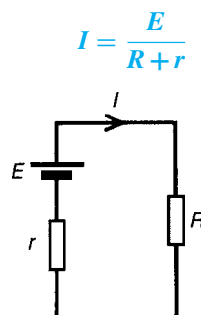

Figure 13.36
- (iv) determine the value of the current from the equivalent circuit shown in Fig. 13.36, i.e.